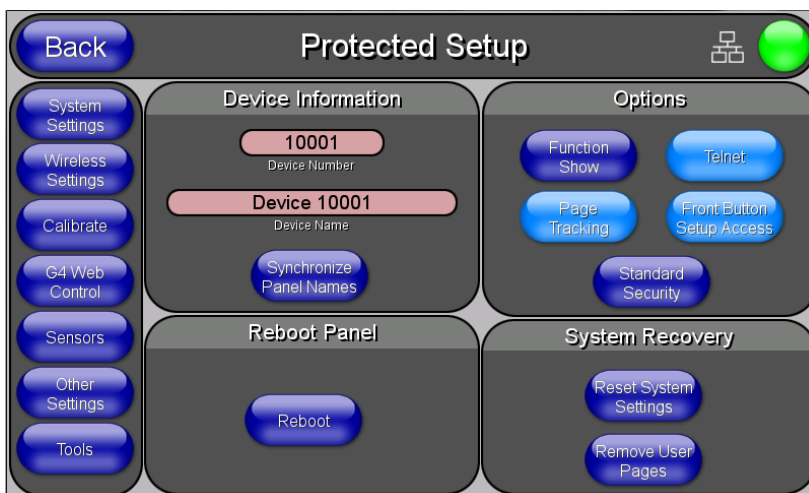

FIG. 54 Touch Panel Protected Setup Page
2. Press the **Protected Setup** button to access the *Protected Setup* page (FIG. 54):